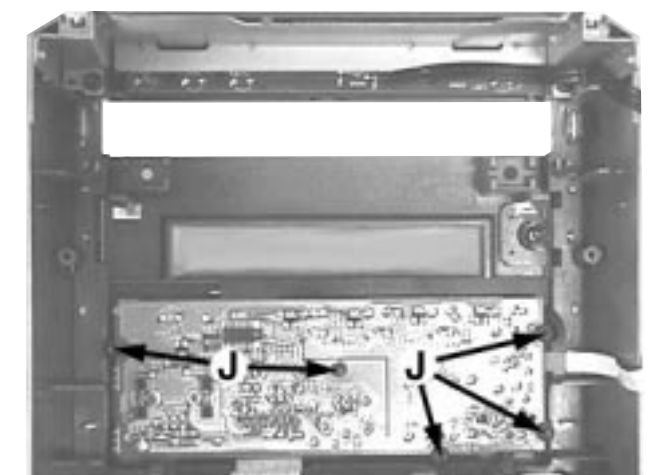

Figure 14
- 9) Loosen 5 screws J (see Figure 14) and 2 nuts W (see Figure 10) to remove the Control Board (pos 1105B).